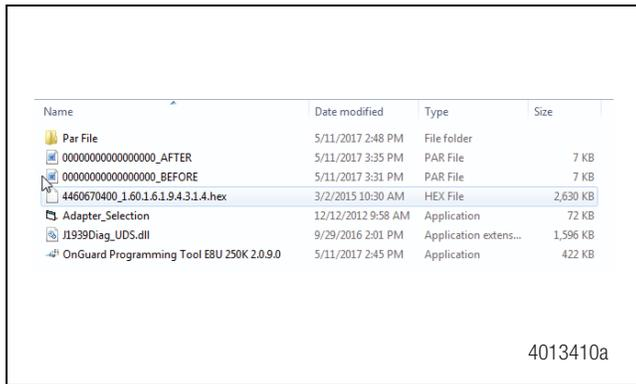

Figure 24
- After the radar has been successfully programmed, you must email the saved “Before” and “After” parameter files to toolbox@wabco-na.com. As noted in Figure 23, the parameter files will be located in the “OnGuard™ ABS E8 Compatibility Update Tool” folder, the same folder as the OnGuard Programming Tool E8U 250K 2.0.9.0 file. The .par files will have the VIN as the filename. The two .par files generated by this application will be named VIN\_BEFORE.par and VIN\_AFTER.par. Figure 24.